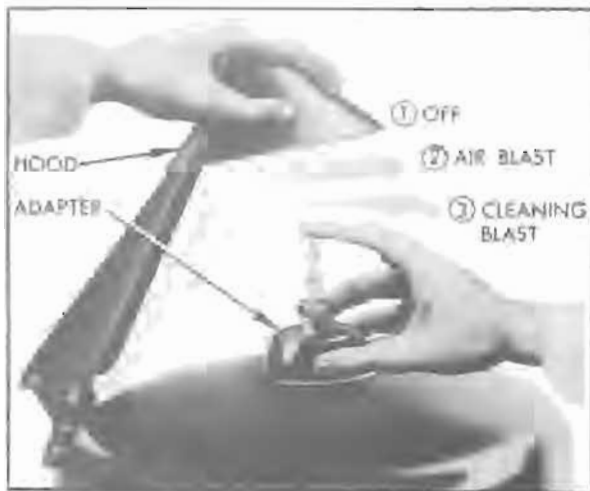

Figure 10-71—Use of AC Spark Plug Cleaner
3. Place spark plug in adapter of proper size and hold adapter and plug in spark plug cleaner with one hand. Push cleaner hood half way down to "air-blast" position to blow out loose dirt and dry out plug, then press hood all the way down to "cleaning-blast" position and hold for 2 or 3 seconds. See figure 10-71.